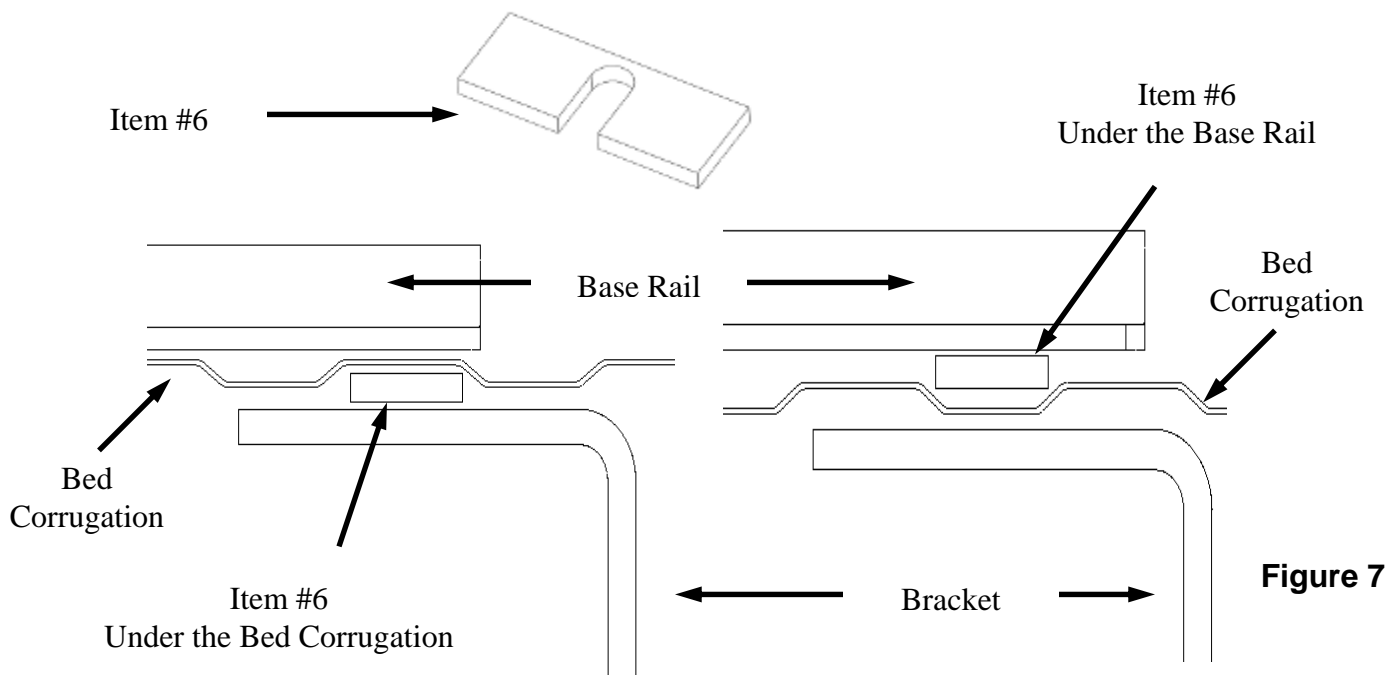

Figure 7
7. If the bed corrugation above the angle bracket is **UP**, leaving a space above the angle bracket, place a spacer plate, item #6 in the location as shown in Figure 7. If the corrugation is **DOWN**, at this location, place a spacer plate, item #6, in the bed, under the base rail as shown.